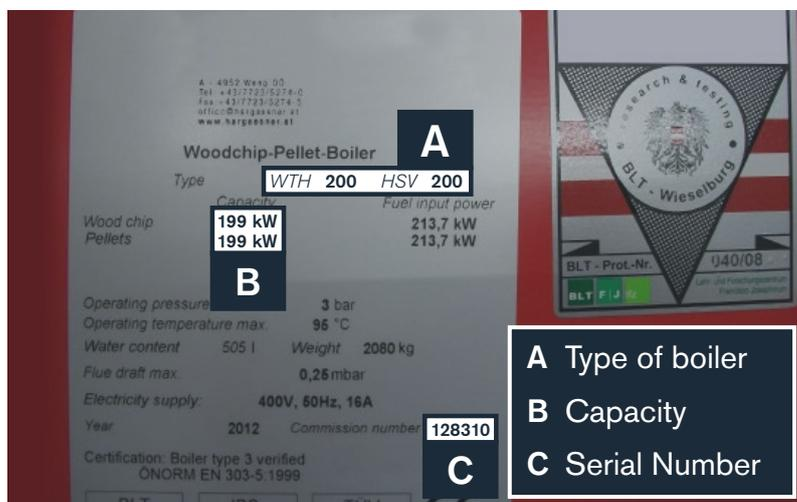

Figure 1: Nameplate
- Photo of the nameplate of the installation clearly showing the capacity and serial number (Figure 1).